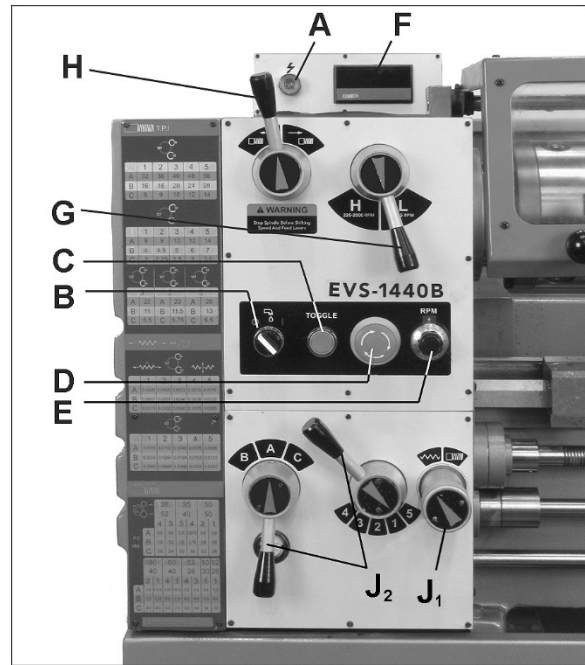

Figure 10-4
To obtain various feed settings and thread pitches, the knob and two levers (J, Figure 10-4) are used conjunctively. Position the levers according to the Feed and Thread Chart on front of end cover. An identical chart is shown in *sect. 13.0*.
1. Move feed direction lever (H, Figure 10-4) for right-hand or left-hand threads.
2. Set spindle to low-speed range (G/E, Figure 10-4). Use lowest speed possible when threading.
3. Turn knob (J₁, Figure 10-4) clockwise to disengage feed rod.
4. Select desired thread using thread pitch levers (J₂, Figure 10-4), referring to charts on end cover.